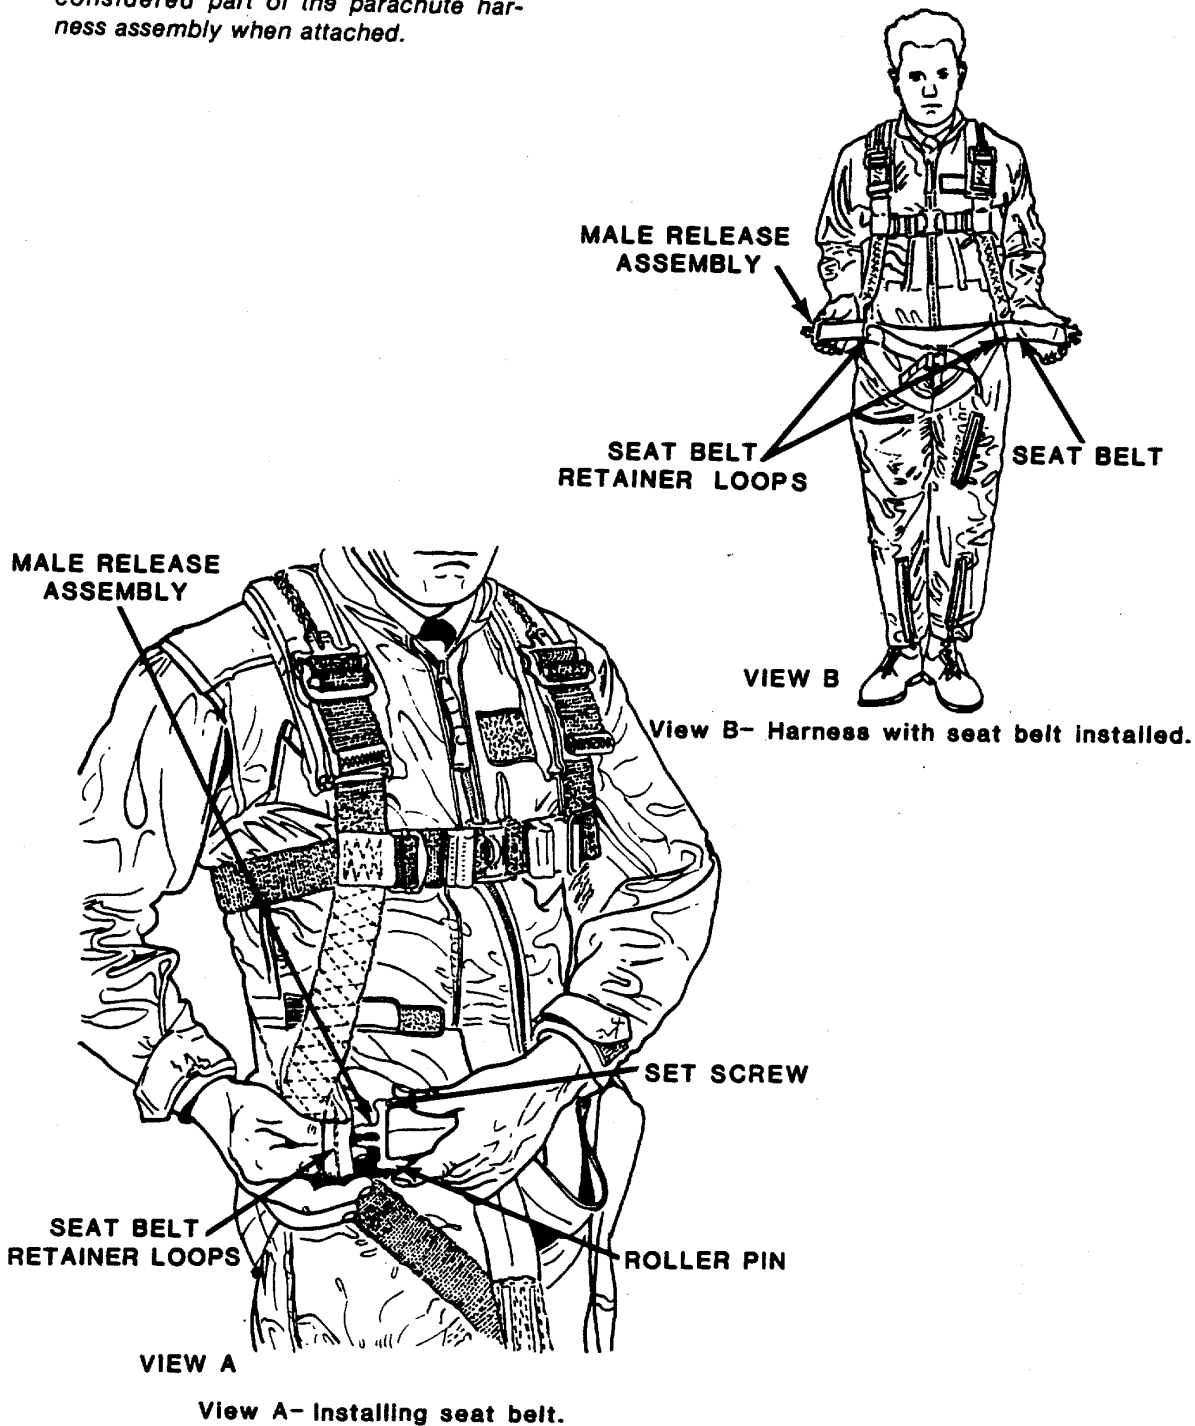

Figure 2-6. OV-1 Fitted Harness.
a. On the fitted harness, the seat belt can be installed in the harness by passing the belt through the seat belt retainer loops located on the left and right side of the harness at hip level (View A, fig. 2-6). Rotate the male release assembly 90 degrees up or down and pass it through the loop.
b. For the adjustable harness, the male release assembly must be removed from the seat belt. Using a small bit common screwdriver, remove the set screw from the base of the release assembly and remove the roller pin from the assembly (View A, fig. 2-6). Pass the seat belt webbing through the accessory attachment ring (View A, fig. 1-4). Then attach the male release assembly back to the seat belt web. The above procedure is used for both sides of the harness. For harnesses with seat belt installed, see View B, figure 2-6.